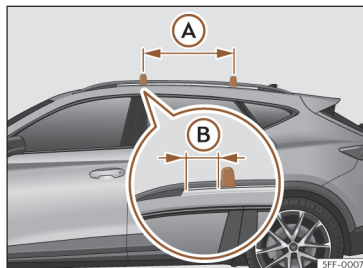

Fig. 187 Attachment points for the roof railings for the roof carrier system.
The crossbars are assembled on the roof railings. The distance between crossbars >>> Fig. 187 (A) should be between 70 and 90 cm and the distance between the crossbars and the brackets of the roof railings (B) must be 9 cm.